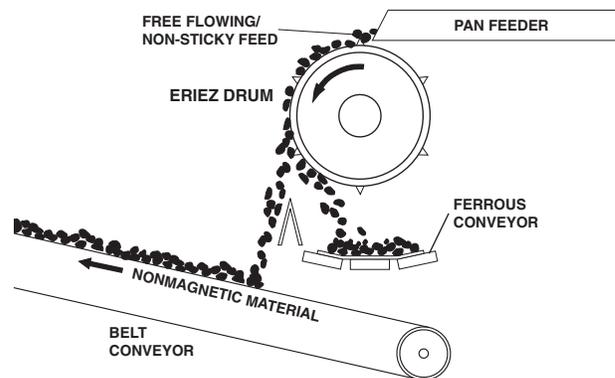

FIGURE 5.
- Feed to the top of the drum as shown in Figure 5.